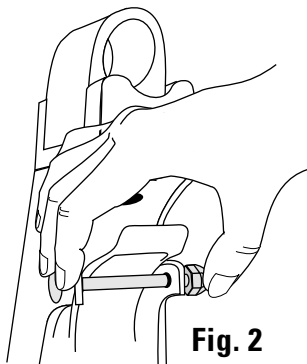

Fig. 2
4. Replace the cut rivets with the rivets supplied in this kit. To secure the rivets, push a Pal Nut onto the small end pushing **FIRMLY** to seat it. (Fig.2)